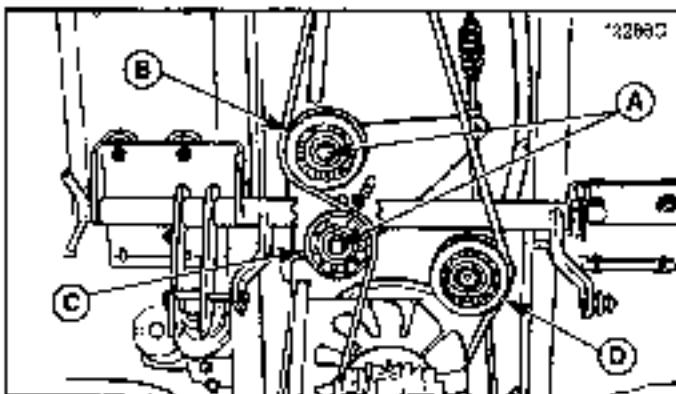

Figure 34. Drive Belt Idler Pulley
- See figure 34. Loosen capscrews (A). Slip belt from between front V-pulley (B) and belt stop and from between rear Idler pulley (C) and belt stop.